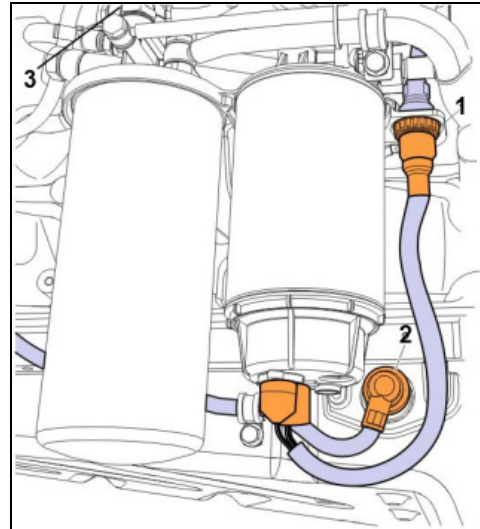

FIGURE 22
13. Connect the harness to the fuel pressure sensor (fig.22, item 3), ground connection to the block, and the harness ground wire ring terminal to the block behind the alternator. Install nylon cable ties and P-clamps as necessary.
15. Connect the harness to the engine oil level/temperature sensor and water separator connector on the cold side of the engine (fig. 22). Install nylon cable ties and P-clamps.